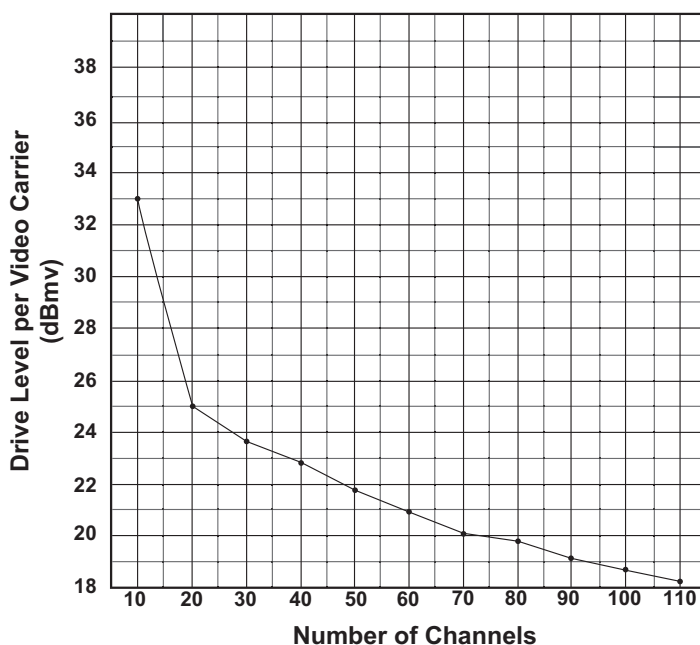

Figure 3.1 – Transmitter Level per Channel vs. Number of Channels
5. The recommended RF input level is shown in Figure 3.1. Exceeding the RF input level may damage the transmitter. Actual units do vary several dB's from these curves. The carrier levels should be closely matched to ensure consistent performance on all channels. In all cases, set the composite RF input level so that the RF Level Indicator LED is green. Note that the RF indicator LED only operates for rated channel loading and a flat input spectrum.
- A. **RF Level Adjust** - Provides 4 dB of variable attenuation of the RF input level. Allows precise input level adjustment to the nominal level requirements noted in Fig. 3.1 to provide a green indication on the tri-color RF LED.
Figure 3.1 on page 10 shows the transmitter level per channel versus the number of channels being transmitted.